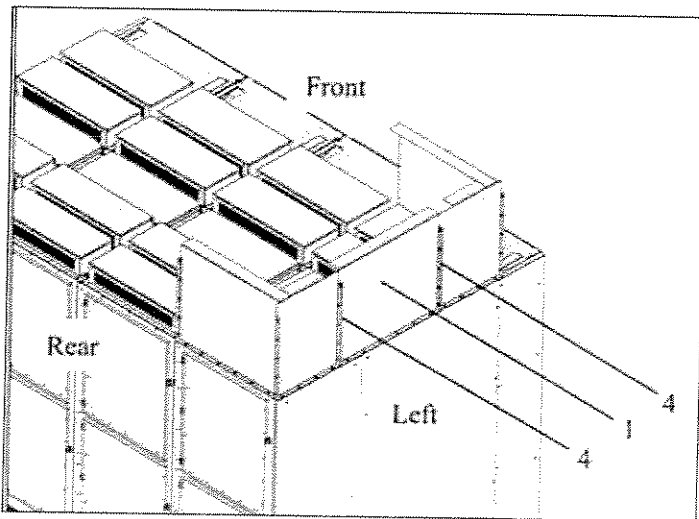

Figure 14. Completing the Left Arc Exhaust Wall.
- C. Complete the left arc exhaust wall (see Figure 14).
1. Loosely fasten one wide vertical panel (1) to the left side of the switchgear roof using the 0.25" cap screws and washers at two points of connection as done in previous Steps 1 and 2.
2. Using the 0.25" self-tapping screws, fasten two vertical seam covers (4) to the vertical flanges as shown in Figure 14.